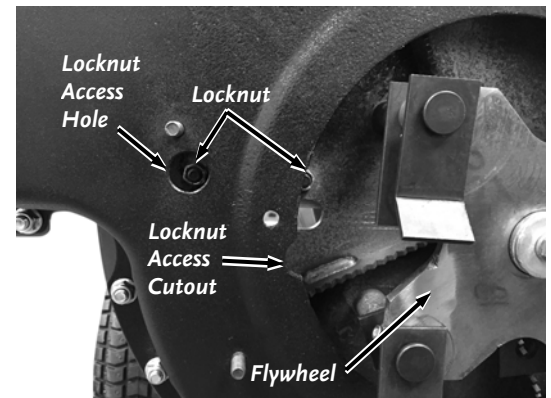

Figure 22
3. Rotate the Flywheel until the Locknut is visible through the Locknut Access Hole. (**Figure 22**).
5. Insert a 3/16" Allen wrench into the head of the screw and a 1/2" Deep Socket on the Locknut through the Locknut Access Hole (**Figure 22**) and remove the Locknut and Screw.